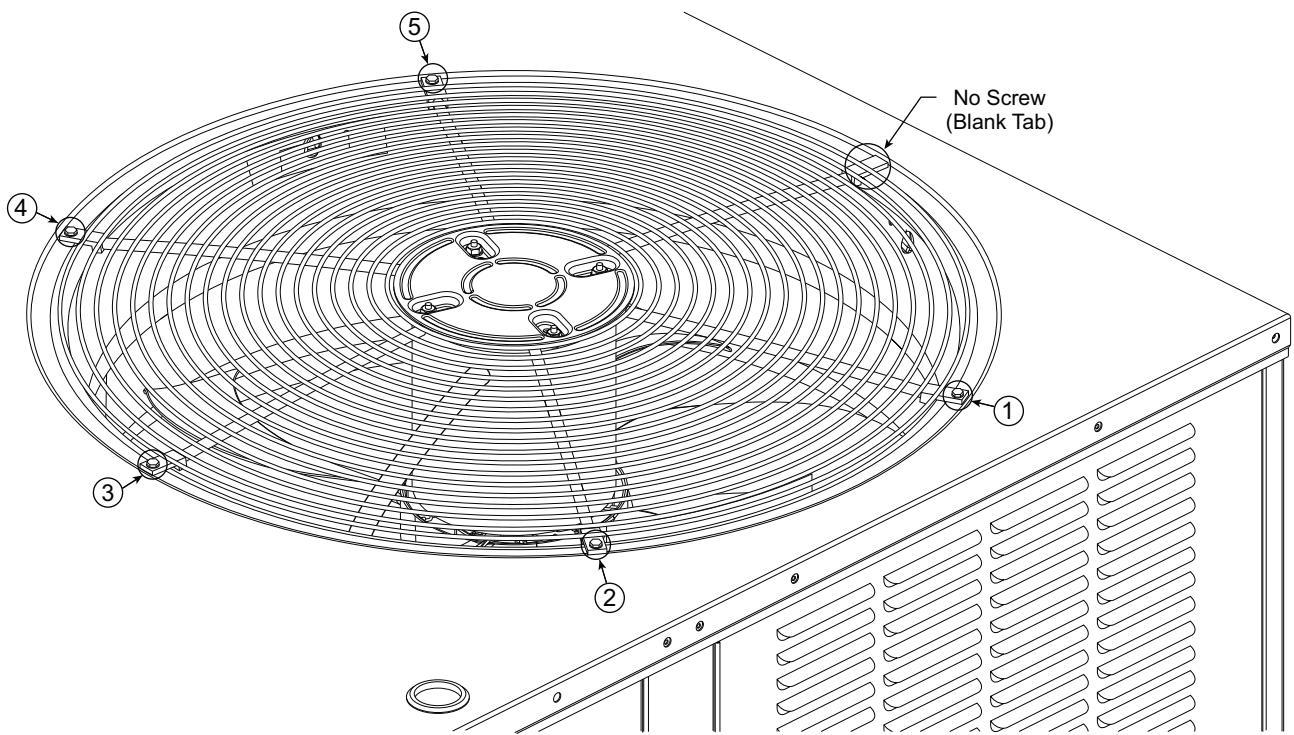

Fig. 26 – Condenser-Fan Assembly – Screw Pattern Sequence
6. Replace condenser-fan assembly. When replacing the condenser-fan assembly follow the screw pattern sequence shown in Fig. 26. The screws must be replaced in the sequence shown in the figure.